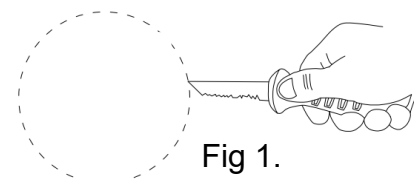

Fig 1.
6. Mark and cut out a **255mm diameter hole** for units 23026/05 and 23028/05. (Fig 1).
7. Mark and cut out a **300mm diameter hole** for units 23027/05 and 23029/05. (Fig 1).